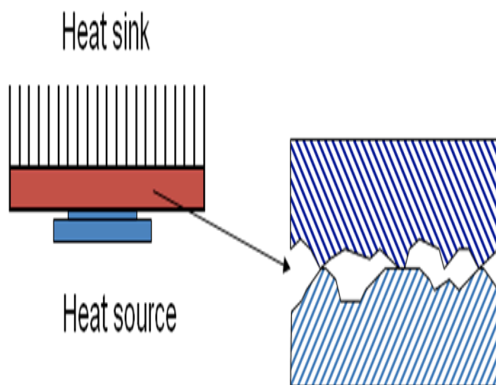

Fig.3 Air gap between heat sink and package
- Perfect contact can never be ensured between the heat sink and the package, this result in air gaps between them. (See Fig.3), which represent a significant resistance to heat transfer. To combat this problem, it is necessary to use a thermal interface material (TIM).